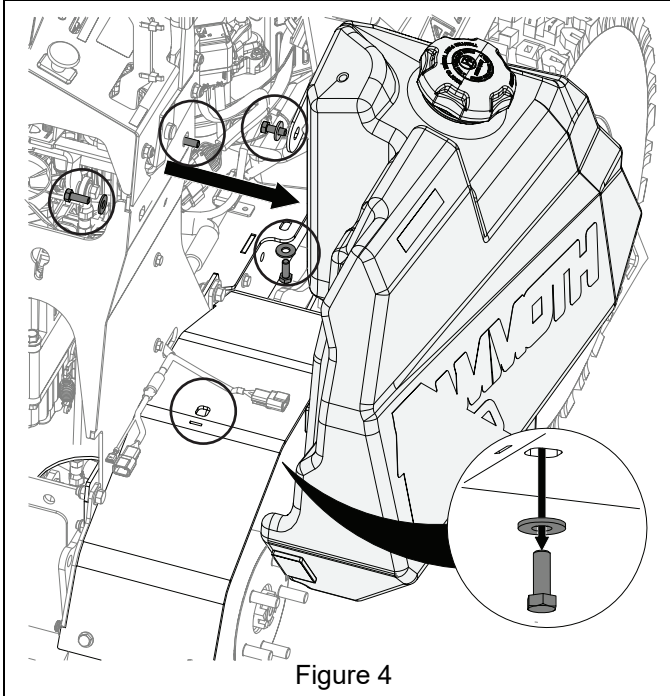

Figure 4
- Remove and retain five hex bolts and flat washers securing brine tank to tractor. Remove and retain brine tank. See Figure 4.